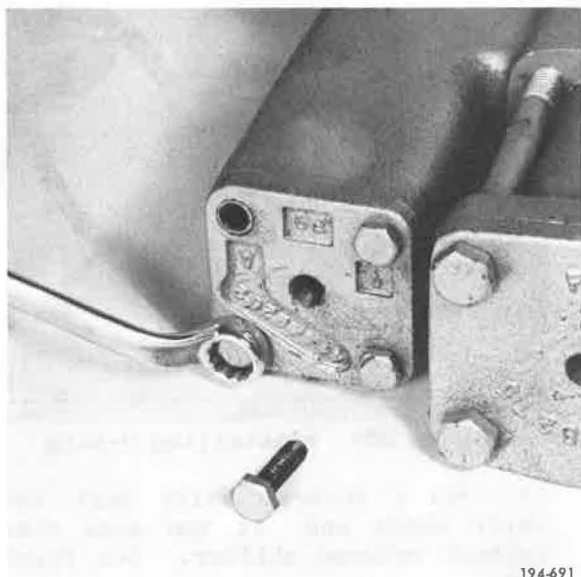

Figure 271. Installing Capscrews
21. Install reverse shift cover capscrews and tighten to 81 to 101 lb. in. torque. Refer to Torque and Tolerance Table, Item 17. See Figure 271.